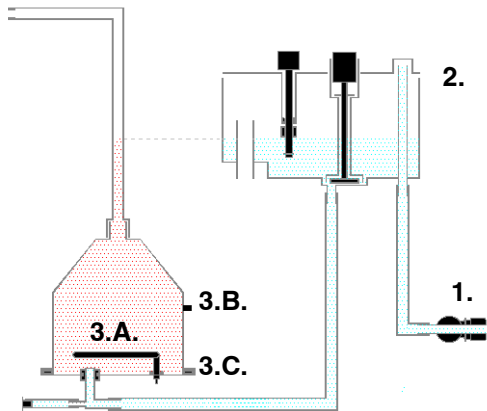

Fig. 1 The water dosing system
- The magnetic valve (fig.1 ,1.) is opened and fills water in the float tank with a speed of 2 litres per minute, depending on the pressure.
After the system is completely filled with water, element (fig.1 ,3.A.) is switched on by means of a relay in the machine.
The temperature sensor (fig.1 ,3.B.), which is mounted on the outside of the boiler, measures the actual temperature of the water. This ensures that the water in the boiler is heated to the desired final temperature.
There is a second temperature sensor on the boiler (fig.1 ,3.C.). This sensor monitors the outlet temperature of the dosed water. If this sensor measures a too low temperature, the machine is blocked. No more water is dosed.